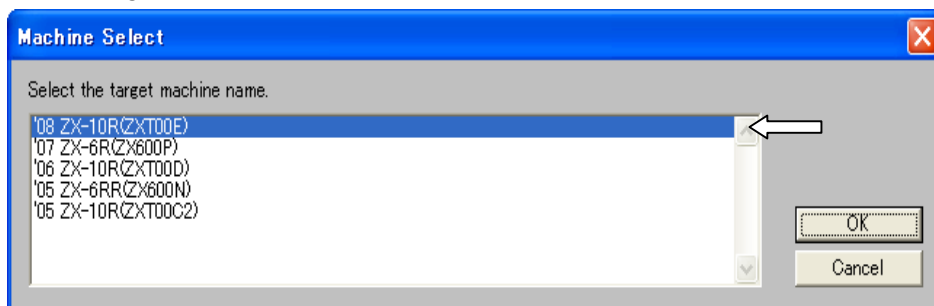
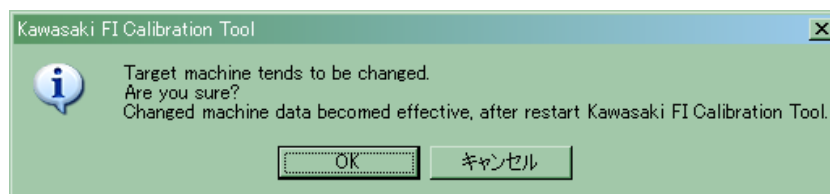

Fig. 40 Machine Select Dialog
Fig. 41 Machine Change Confirming dialog
You can change the editing data according to the target machine. To change the target machine, go to the pull down **Set** menu and select **Machine Select**. Then the Machine Select dialog shown in Fig. 40 appears.
After you select the machine that you want to set by mouse operation or key operation, click **OK** button or press **Enter (Return)** key. Then the machine change confirming dialog shown Fig. 41 appears.
- Selecting **Cancel** button in the Fig. 40 or Fig. 41 cannot execute the machine changing.